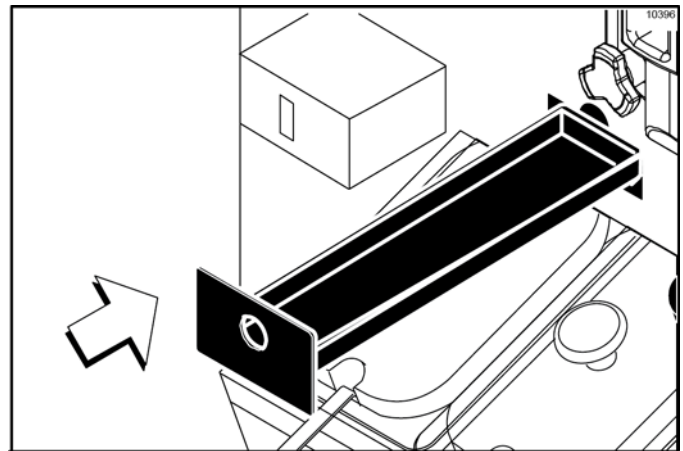

Figure 6-32
16. Slide the long drip pan into the hole in the front panel above the syrup topping dispensers. (See Figure 6-32.)